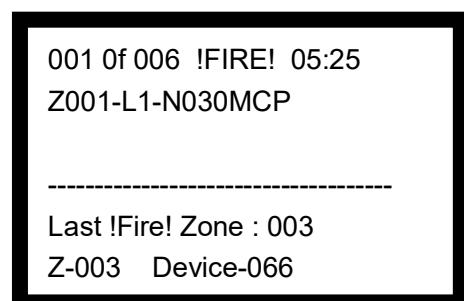

Fig. 5-4
- 2. Fig. 5-4 shows fire alarm screen in loop display mode.